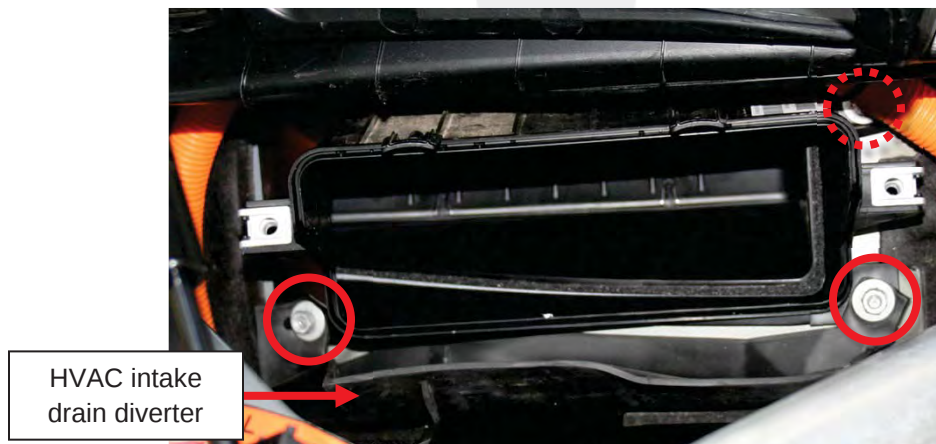

Figure 2
- c. Remove the remaining 3 nuts that secure the pollen filter rear housing to the bulkhead (torque 6 Nm) (Figure 2).